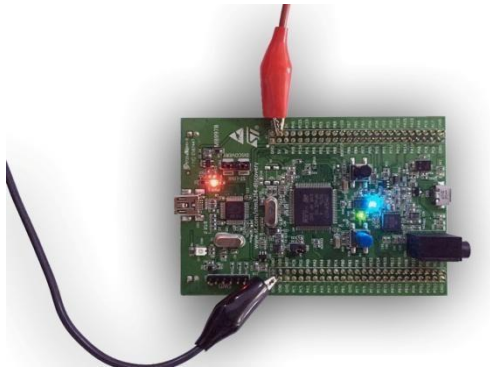

Figure 25: Connecting the Power Cables to the Circuit (Step 3)
- The Power Cable is connected to the power supply of the electronic circuit Red Cable (+), Black cable (-). (Figure 25)